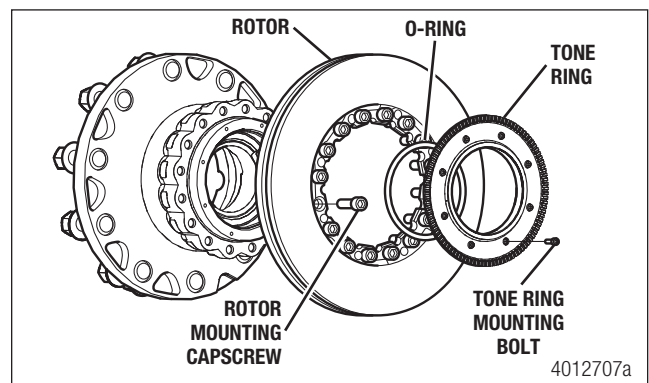

Figure 6.8
- Use the correct size wrench to remove the hub-to-rotor bolts and washers. Remove the rotor from the hub. Figure 6.8.